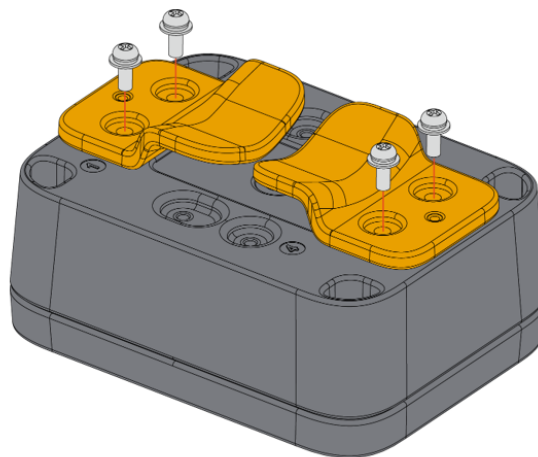

Figure 14: Fixing the pole mount on the enclosure
2. Fix the pole mounts marked with the letter **A** on the WisBlock Unify Enclosure using four (4) pieces of M3*8 mm Head screw with a washer. Place it on fixed positions number **1 & 3** of the enclosure as shown in **Figure 14**.